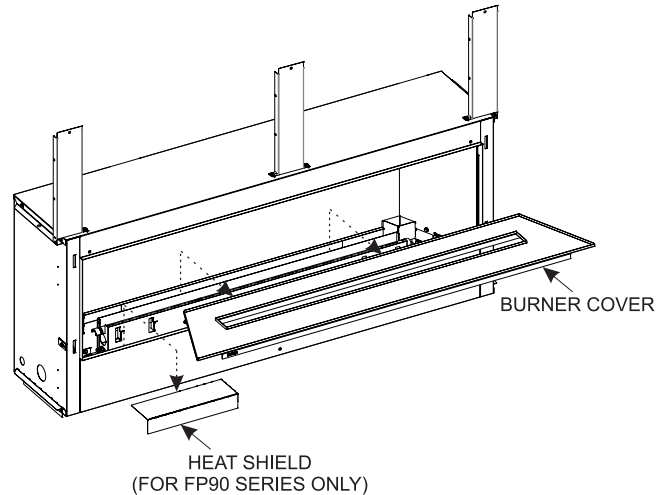

Figure 16
1. To access and install the junction box and wiring, begin by removing the burner cover. Lift it straight up off of the burner and set aside. **See Figure 16.** For VFLL(38,48)FP90 Units: Remove the heat shield and disconnect the wire to the switch on the heat shield.
- 10b. For VFLL(38,48)FP90 fireplaces, set receiver for "remote". Set switch on side of heat shield to standing pilot or intermediate pilot. **See Figure 73**. Verify that the heat shield is back in place. **See Figure 16**.
11. Replace burner cover. **See Figure 16**.